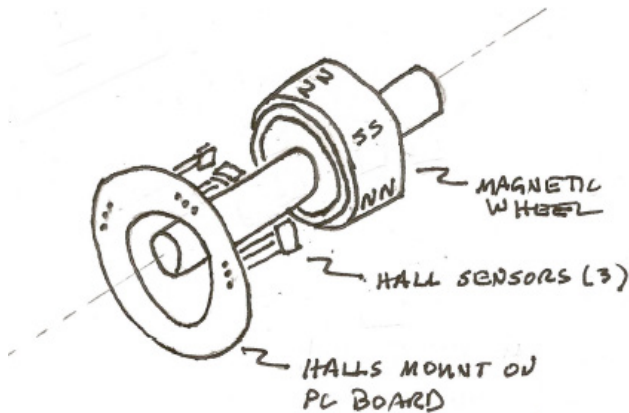

Figure 2 Typical Hall sensor and magnetic "wheel" assembly
The basic Hall assembly illustrated in figure 2 consists of three (3) Hall sensors (placed 60 mechanical degrees apart), a magnet "wheel" (attached to the motor shaft) and parts to hold the sensors in place. In some motors, the design is arranged so the Halls sense or detect the motor magnets thus eliminating the magnet wheel.